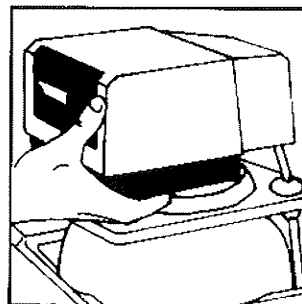

FIG. 6
3. Carefully lift the entire valve head pressure vessel and brine pick-up tube. Replace to new position (Fig. 6).